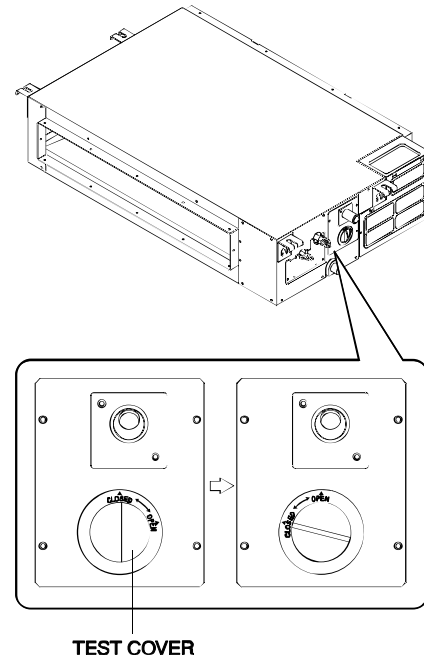

Fig. 49 — Check the Bends and Joints for Leakage
1. Remove the test cover by rotating it counter-clockwise (see Fig. 49).